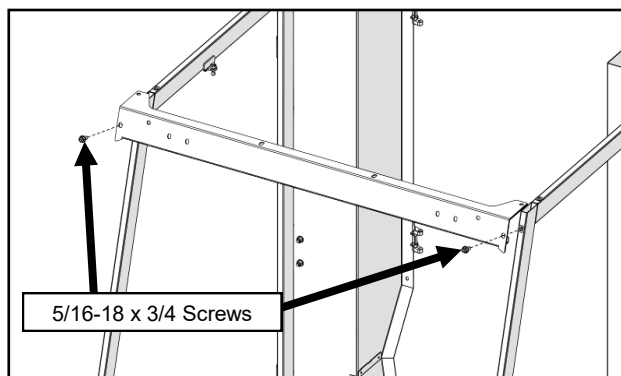

Fig. 8.1 (Windshield Support to Side Frame Fasteners)
- 8.1 With assistance, align sides and top of the windshield support with the side frames. Fasten the windshield support in place with a screw through the front of each side frame. See Figure 8.1. Confirm bolt holes in the top of the windshield support align with the inserts in the side frames and tighten hardware.